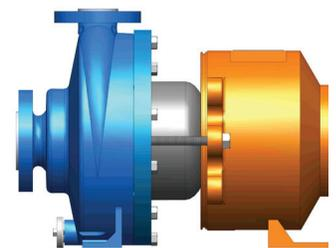

figure 2
7. Using a 3/4" socket, unbolt the wet end (Items 1 through 7) from the motor adapter (Item 9) by removing the (4) 1/2" hex head cap screws (Item 15). Extend the (2) jackscrews (Item 14) using a 3/4" socket, turn the jackscrews clockwise until they are fully extended. *See figure 2.*